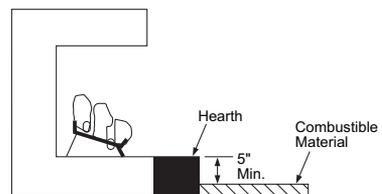

Figure 9 - Minimum Fireplace Clearances Above Combustible Flooring
- If combustible materials are less than 14" to the fireplace, you must install appliance at least 5" above the top surface of combustible flooring including tile and carpet (see Figure 9).